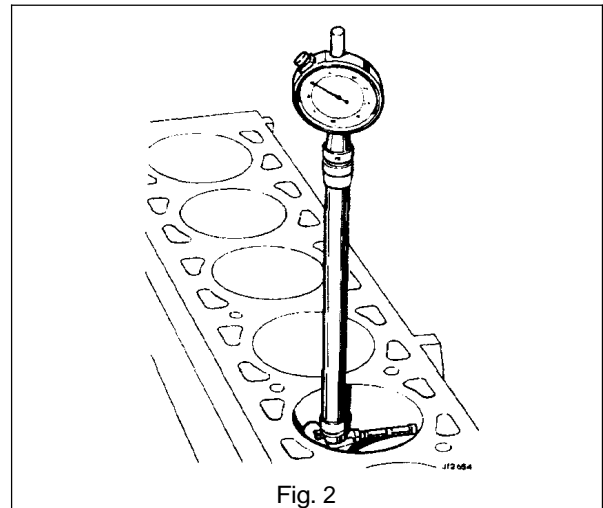
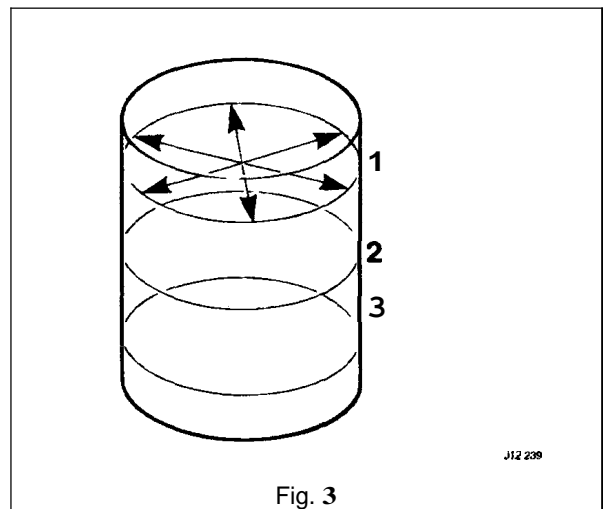

Fig. 2
Fig. 3
- Check the bore wear in the cylinder block with a suitable comparator (Fig. 2). This must be done in at least six positions in the bore (Fig. 3).